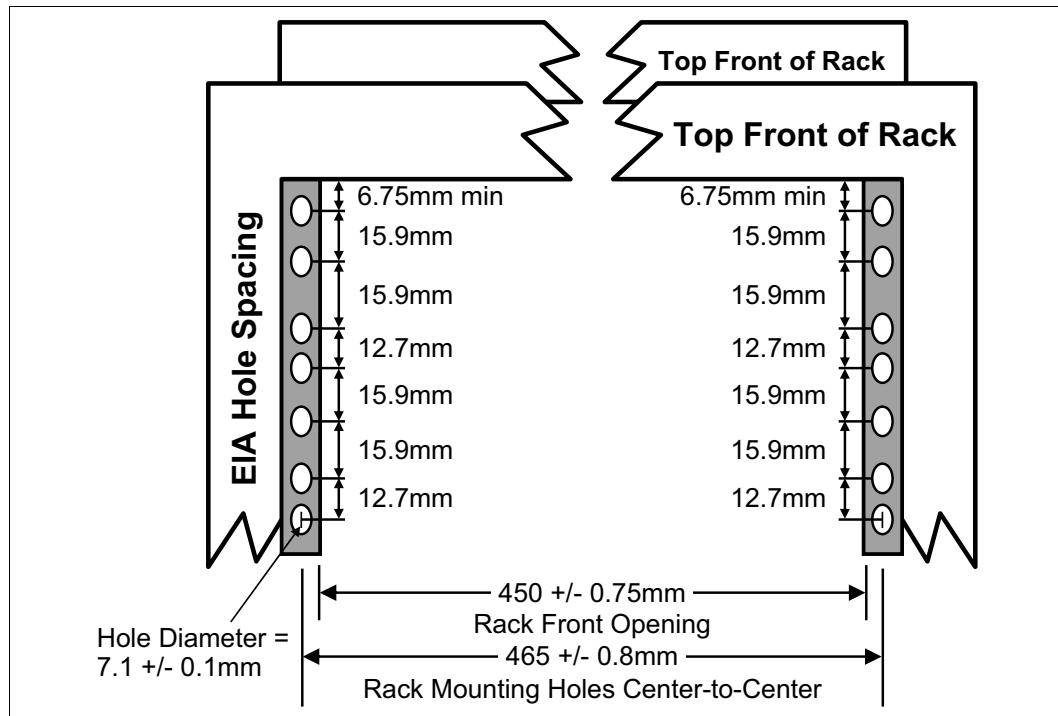

Figure 1-16 Rack specification dimensions: Top front view
- The vertical distance between the mounting holes must consist of sets of three holes spaced (from bottom to top) 15.9 mm (0.625 in.), 15.9 mm (0.625 in.), and 12.67 mm (0.5 in.) on-center, making each three-hole set of vertical hole spacing 44.45 mm (1.75 in.) apart on center. Rail-mounting holes must be $7.1 \text{ mm} \pm 0.1 \text{ mm}$ (0.28 in. \pm 0.004 in.) in diameter. Figure 1-16 shows the top front specification dimensions.